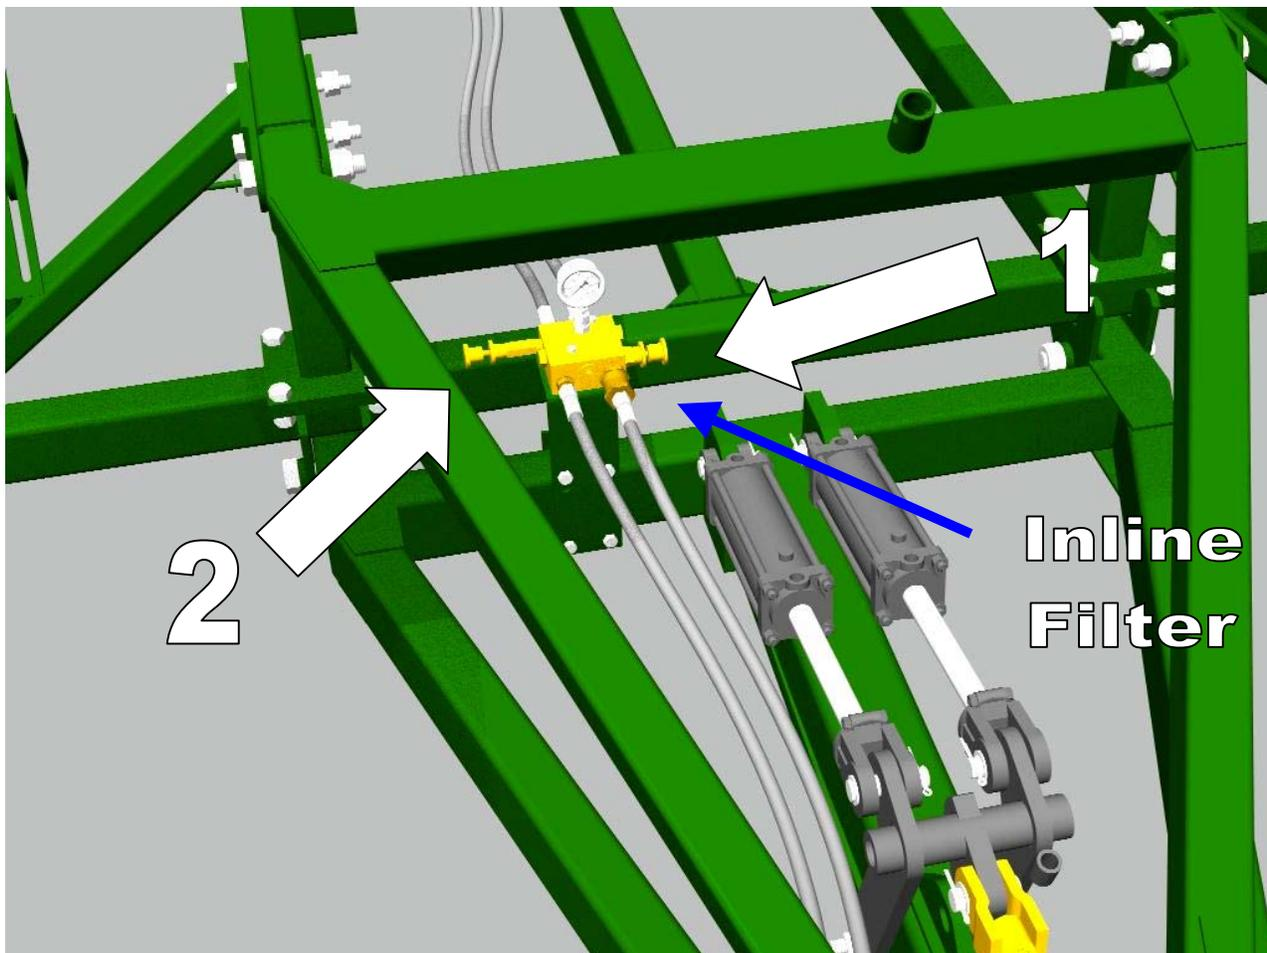

Figure 1
1. Adjust the bypass/pressure reducing valve by turning knob (1), Figure 1, clockwise all the way in and then backing out 1 full turn.
4. Adjust bypass/pressure reducing valve knob (2) on implement so the pressure gauge reads 1200 psi. Never exceed 1400 psi.
5. While watching pressure gauge, slowly open valve knob (1) until gauge reads 1100 psi.